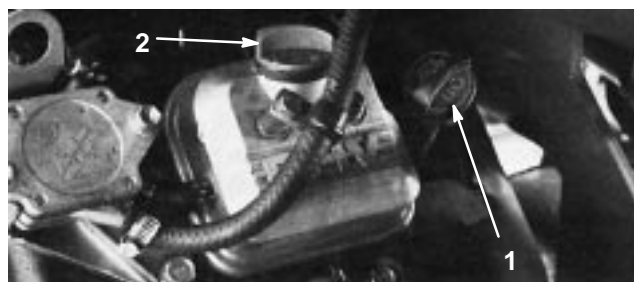

Figure 15
- Unscrew the dipstick and wipe it with a clean rag. Screw the dipstick into the tube and make sure it is seated fully (Fig. 15). Unscrew the dipstick out of the tube and check the oil level. If the oil level is low, remove the filler cap from the valve cover and add enough oil to raise the level to the Full mark on the dipstick.